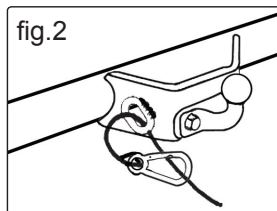

fig.2
2.3. The spring clip end attaches to the tow bar, many tow bars have a specific attachment point for breakaway cables (see fig.2).